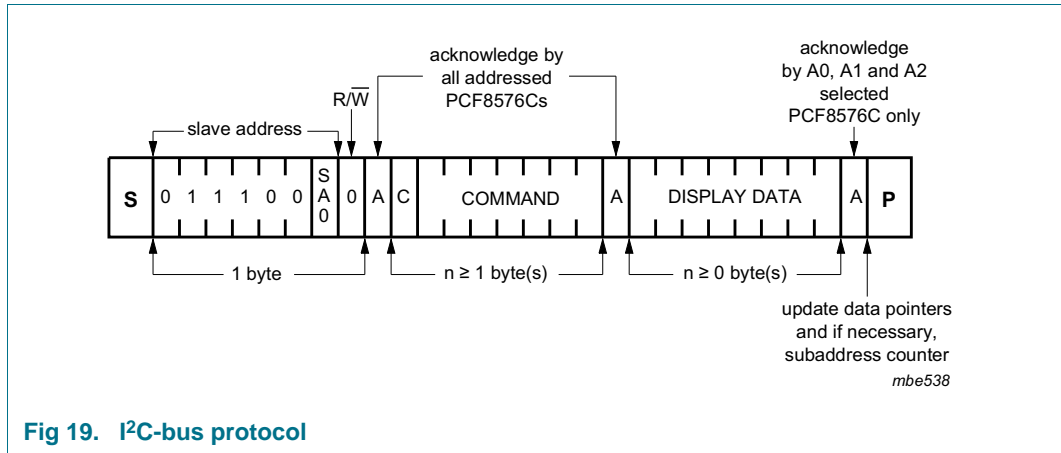

Fig 19. I2C-bus protocol
The I²C-bus protocol is shown in Figure 19. The sequence is initiated with a START condition (S) from the I²C-bus master which is followed by one of the two PCF8576C slave addresses available. All PCF8576Cs with the corresponding SA0 level acknowledge in parallel with the slave address but all PCF8576Cs with the alternative SA0 level ignore the whole I²C-bus transfer.